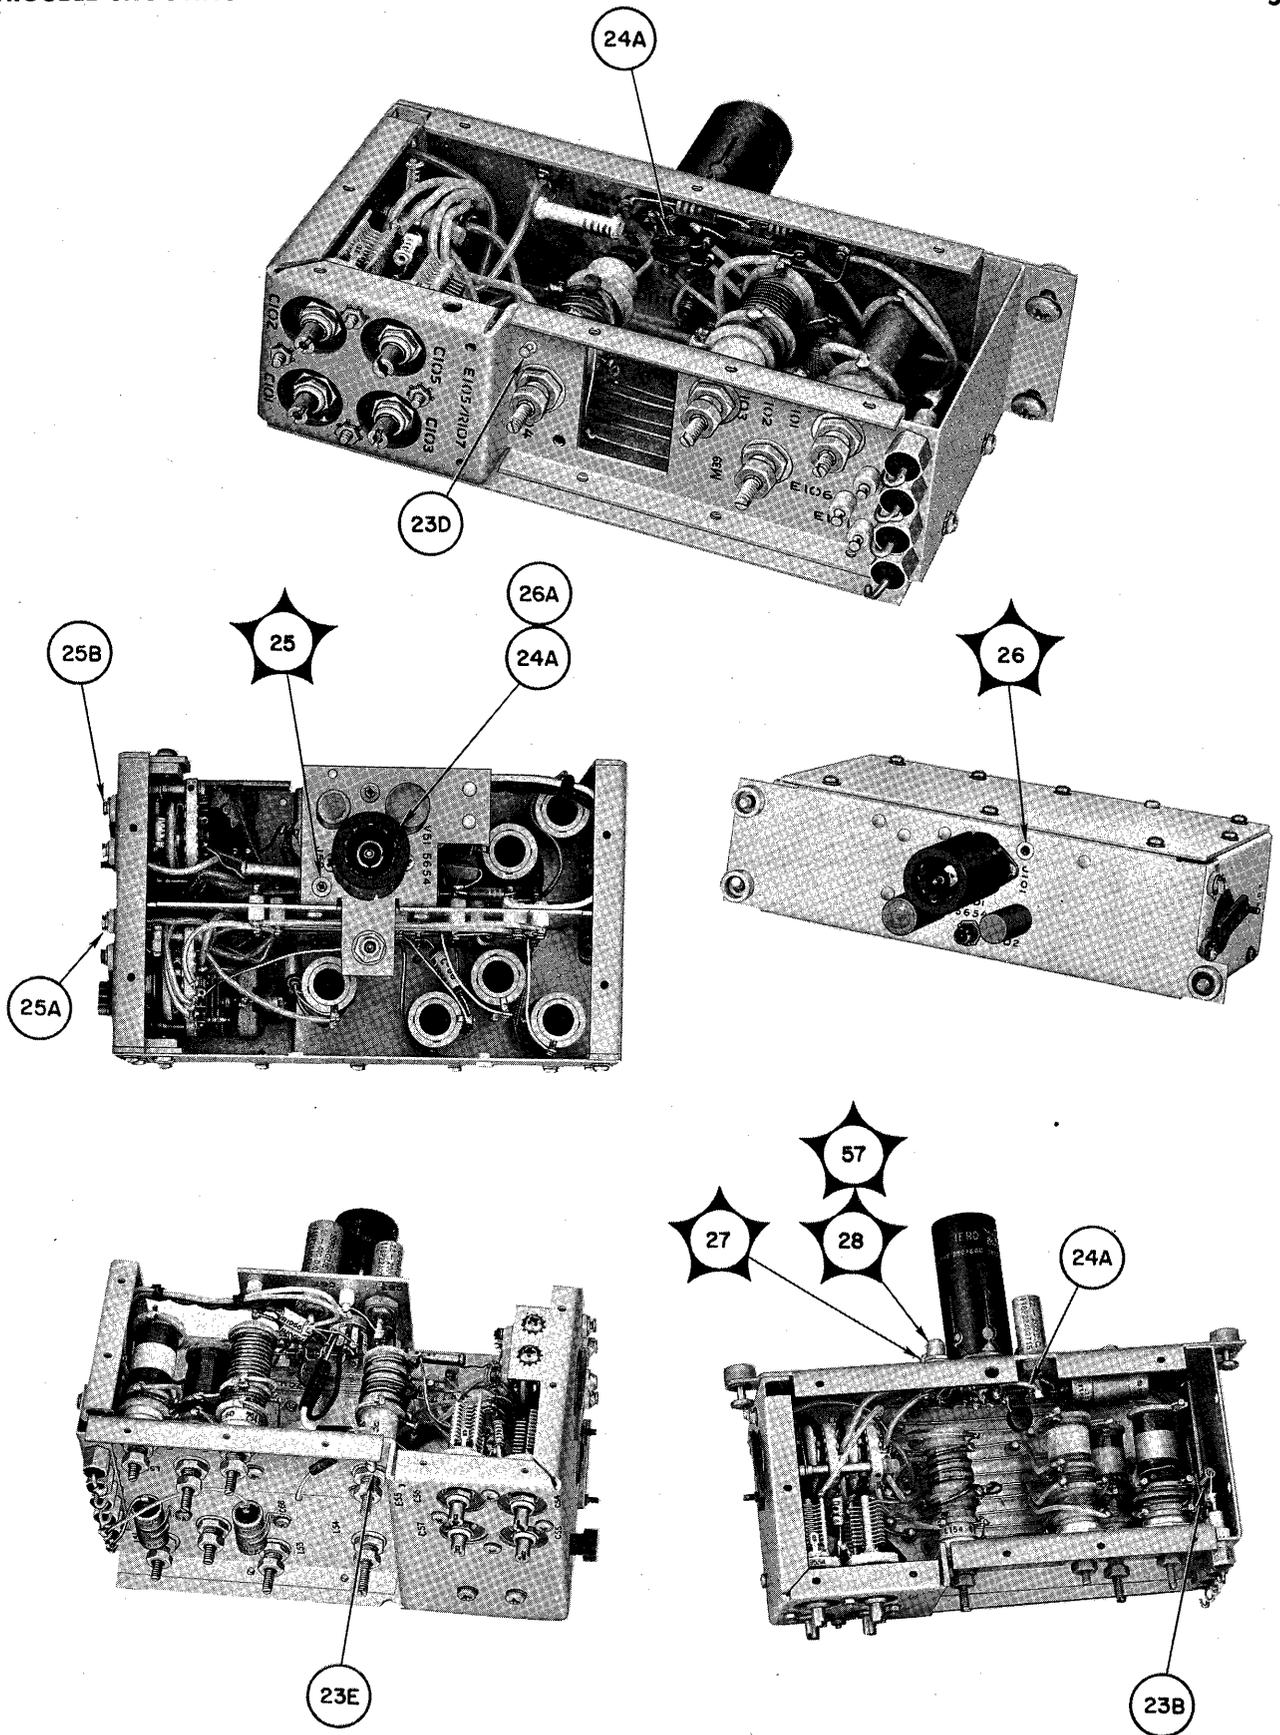

Figure 5-13. Preselector, Location of Test Points
f. PRESELECTOR TROUBLE-SHOOTING CHART.— Trouble-shooting the preselector consists of measuring the initial supply voltages and tracing signals through the circuits. Table 5-7 is the trouble-shooting chart for the preselector. Figure 5-13 shows the location of test points. Table 6-5 gives voltage and resistance measurements. Follow the steps of table 5-7 in the order shown and compare the results with those in